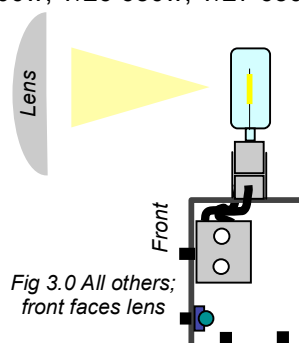
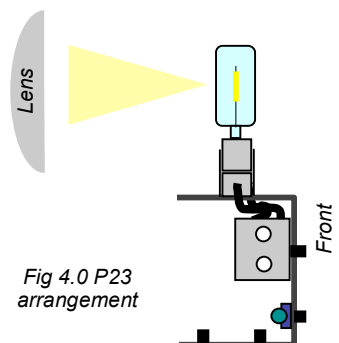

Fig 3.0 All others;
Fig 4.0 P23
6. In the following luminaires the front of the C-Block should face the lens: P123, SF500, SP500 (fig. 3.0). When fitted into the P23 the front of the C-Block should face towards the back of the luminaire (fig. 4.0).